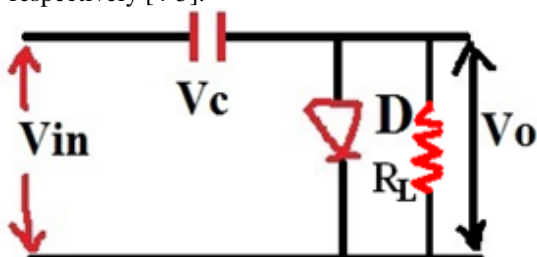

Fig.1: Unbiased clamper circuit
1. Unbiased Clamper: in this type of clamper, the output waveform is shifted completely downwards or upwards from "Zero Axis" (origin) and there is no external battery is applied, it consists of only capacitor, diode and resistor. In figure 1, the typical unbiased clamper circuit is shown which consists of one capacitor in series with the input, an ideal diode shunt with the output and a load resistor. Sinusoidal waveform (AC) is applied as the input and the shifted waveform will be obtained in sinusoidal form in output. The voltage across the capacitor is denoted by " V_c ", ideal diode is represented by " D ", load resistor is denoted by " R_L ". Input and output voltages are denoted by " V_{in} " and " V_o " respectively [4-5].